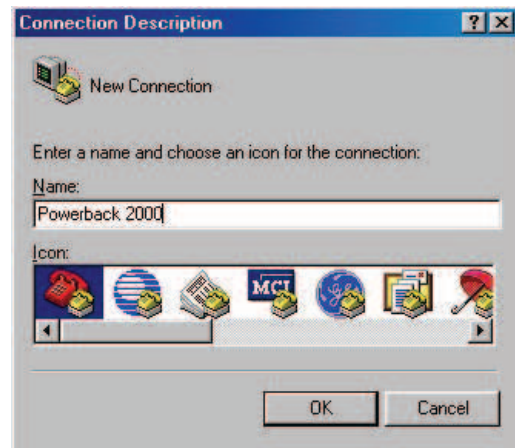

Figure 21
Step 2: Click on the **Hypertm.exe** icon. **The connection Description** screen (Figure 21) appears as shown.